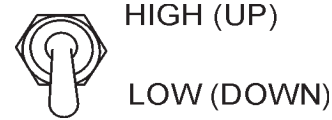

Figure 73. Engine Speed Switch (High)
2. Place the engine speed switch in the "LOW" position (Figure 73).